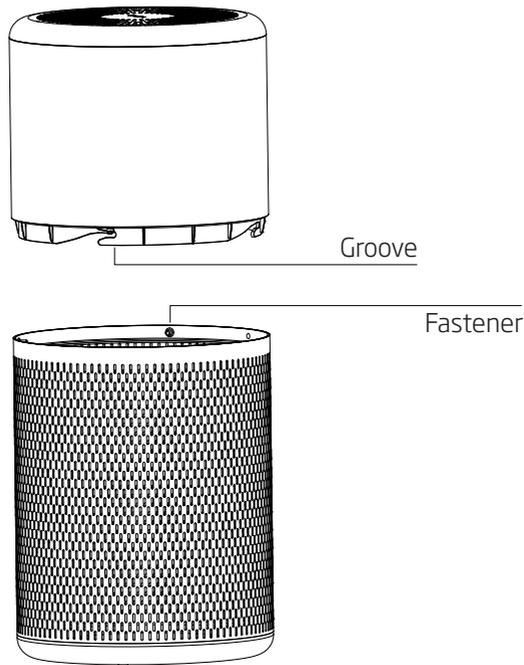

Fig.1
**NOTE:** Before reading these instructions, please view the corresponding illustrations. (fig.1/Page7)
This appliance has an independent Ionizer rocker switch equipped at the bottom of body, feature which, when turned on, releases negative ions into outgoing filtered air to help the air purification process. Remove top body Fig. 1